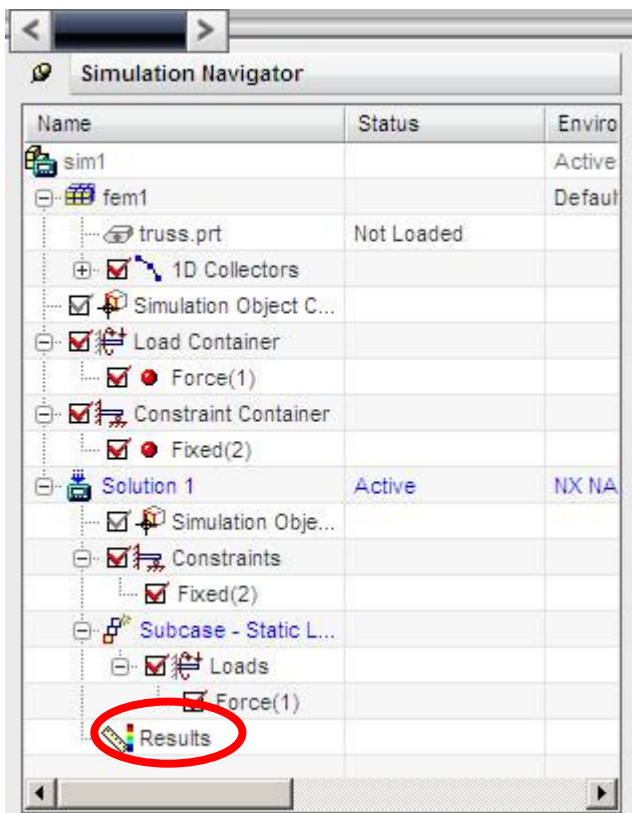

Figure 7. Solution Navigator with Results Computed.
- d) Wait for the solution to be calculated. After it is finished, the *Results* item should appear at the bottom of the Solution Navigator as shown in Figure 7. All of the windows that popped up can then be closed.